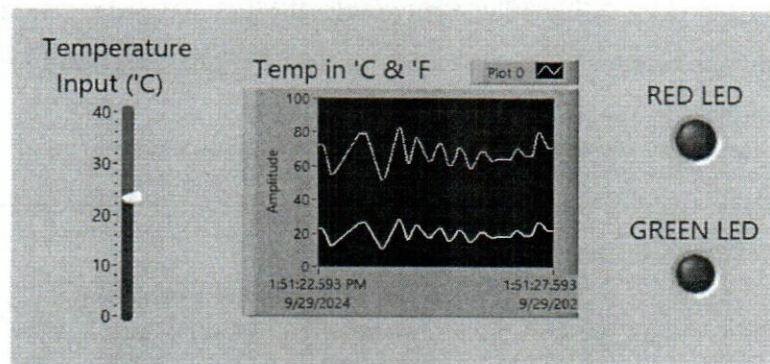

Figure Q2.1
- iii. Refer the Labview Front panel shown in Figure Q2.1 and design a temperature indicator where the input is provided by a slider in °C. Display the temperature on a waveform chart, showing the values in both Celsius and Fahrenheit. Additionally, incorporate two LEDs: the RED LED should light up when the temperature exceeds 100°F, and the GREEN LED should light up when the temperature falls below 32°F. (6 marks)